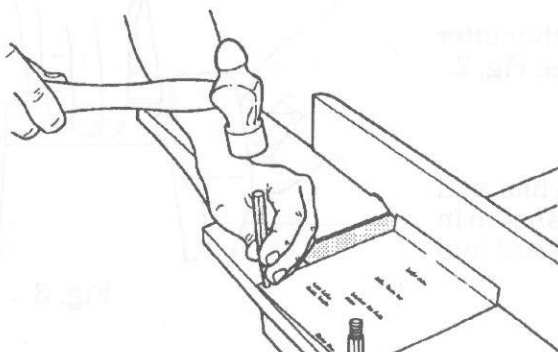

Fig. 7
13. Use a hammer and center punch to punch the template where it says "Center Punch Here." This will leave an indentation in the table. See Fig. 7.